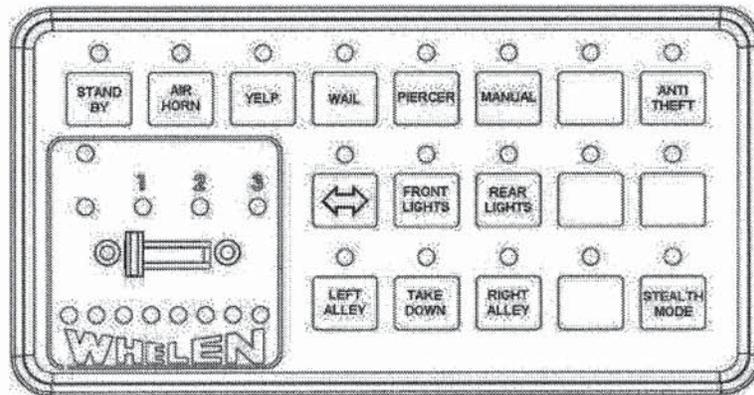

Figure 14 – Whelen – CenCom Sapphire Controller
- b. *Whelen* – CenCom Sapphire Siren and Light Controller, model CCSRN3 (see *Figure 14* for configuration);